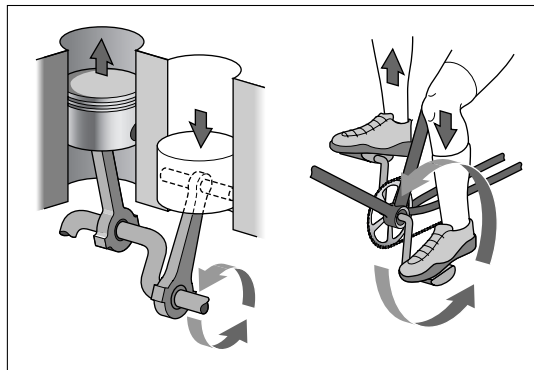

Figure 4-5: The pistons and connecting rod move up and down to turn the crankshaft in circles.
- Attached to the bottom of the piston is a *connecting rod* that's attached to a *crankshaft*, which leads, eventually, to the *drive wheels* of your vehicle. As the piston and the connecting rod go up and down, they cause the crankshaft to turn. As shown in Figure 4-5, this is pretty much the same motion you use to pedal a bike: Your knee goes up and down while your foot pedals around and around.